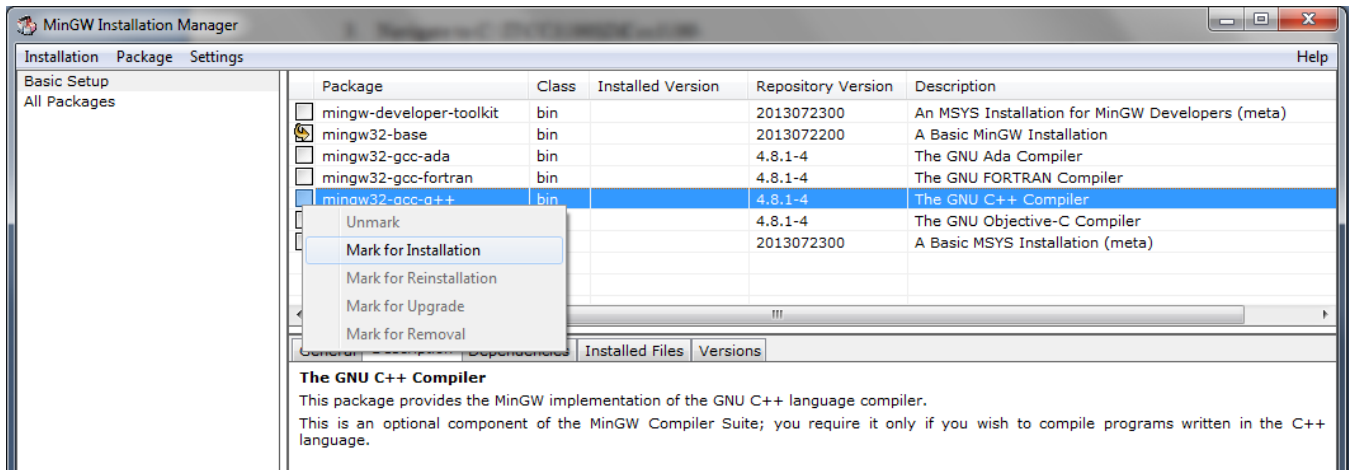

Figure 9. MinGW Installation Screen
- (b) In the MinGW Installation Screen, select packages for **mingw32-base** and **mingw32-gcc-g++** as shown in Figure 9.